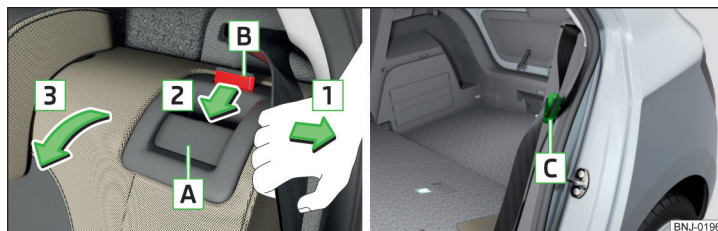

Fig. 59 Fold seat backrest forwards / standby position of the seat belt
- Pull the outer seat belt to the side panel in the direction of arrow **1** » Fig. 59.
The buckle latch of the outer seat belts **C** » Fig. 59 can be inserted into the side panel.